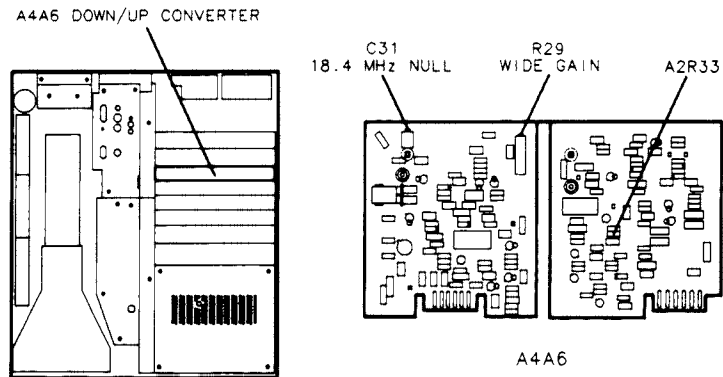

Figure 3-51. Location of Down/Up Converter Adjustments
19. Adjust A4A6A1R29 WIDE GAIN for a MKR Δ indication of 1.00 X, aligning the two markers on the CRT display. See Figure 3-51 for the adjustment location.